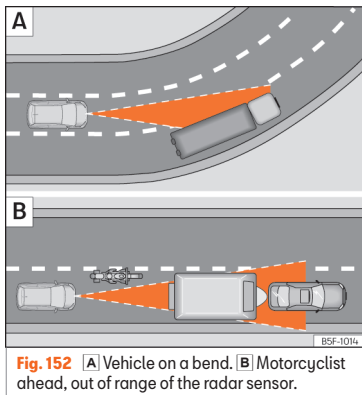

Fig. 152 **A** Vehicle on a bend. **B** Motorcyclist ahead, out of range of the radar sensor.
The ACC may not detect the vehicle in front on a curve, or may regulate the distance from vehicles in other lanes » **Fig. 152 [A]**.
- Vehicles that are not aligned while driving or that are outside the sensor's detection area, such as motorcycles » **Fig. 152 [B]**